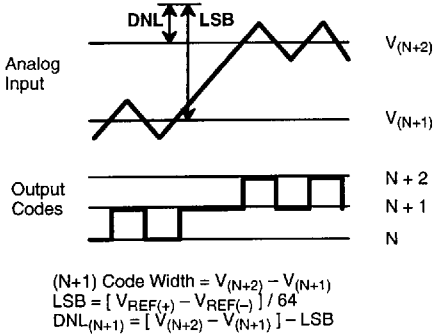
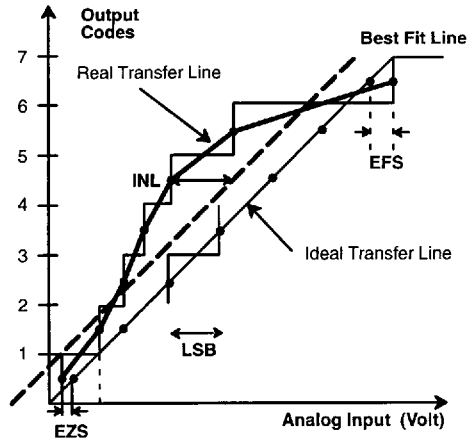

Figure 3. DNL Measurement
Figure 4. INL Error Calculation
- 1 Tester measures code transitions by dithering the voltage of the analog input (VIN). The difference between the measured and the ideal code width (VREF/64) is the DNL error (Figure 3). The INL error is the maximum distance (in LSBs) from the best fit line to any transition voltage (Figure 4). Accuracy is a function of the sampling rate (FS).